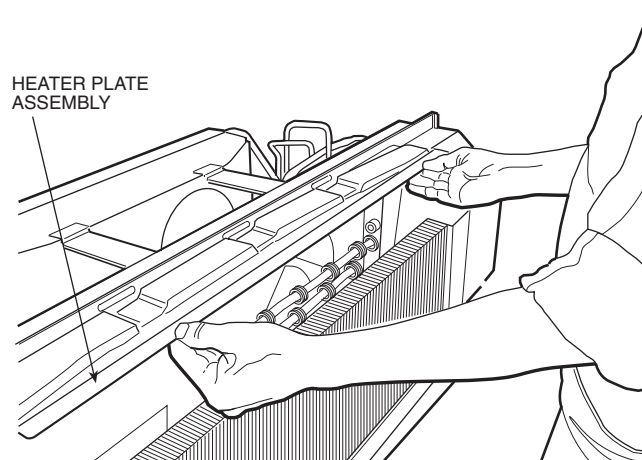

FIGURE 11 — REMOVAL OF HEATER PLATE ASSEMBLY
2. Gently pull the heater assembly up and away from scroll. See Figure 11.